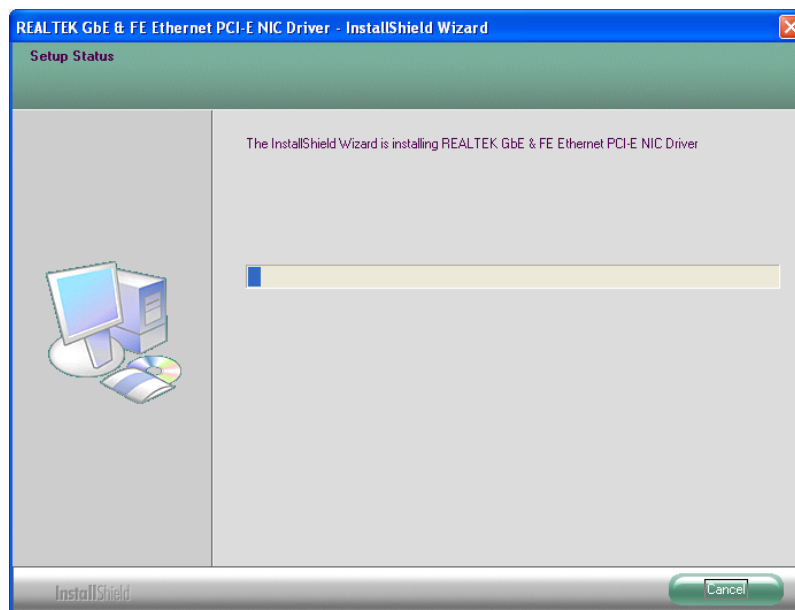

Figure 7-17: LAN Driver Installation
Step 7: The installation progress can be monitored in the progress bar shown in **Figure 7-17**.